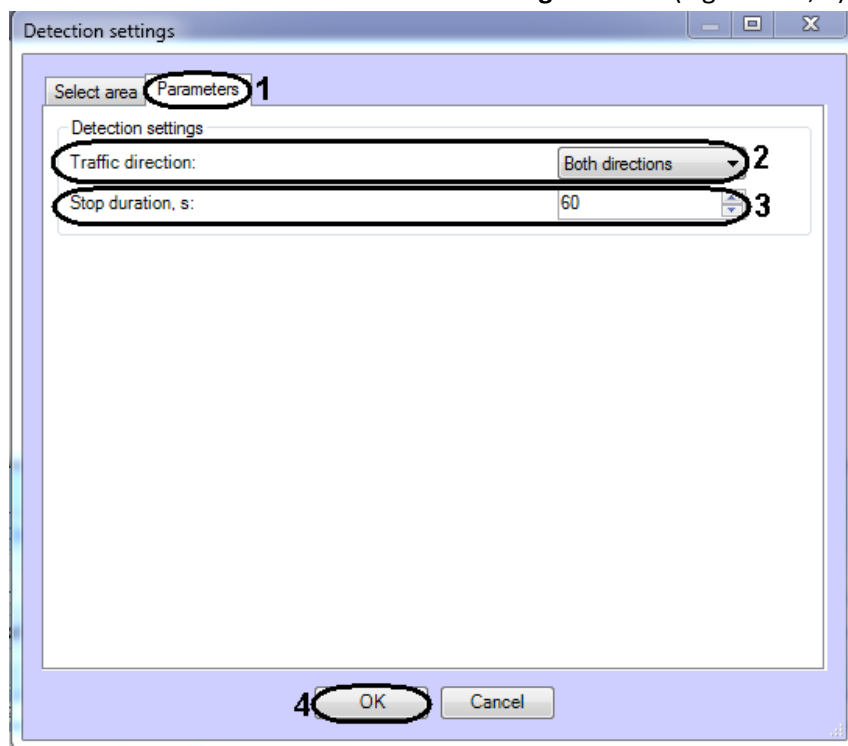

Fig. 6.3—6 Configuring the Stopped vehicle detection module parameters
- 4.2. In the **Traffic Direction** drop-down list select the direction of the vehicles moving towards the camera (Fig. 6.3—6, 2).
- 4.3. In the **Stop duration, s** field set the minimal stop duration in seconds using the up and down buttons (Fig. 6.3—6, 3).
5. Click OK (Fig. 6.3—6, 4).